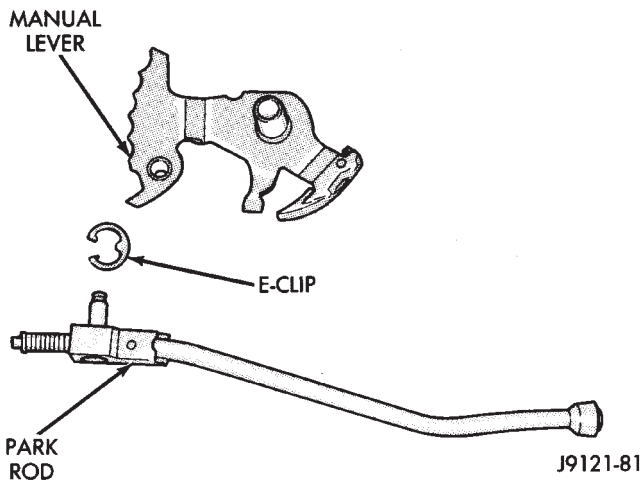

Fig. 55 Park Rod
(15) Remove park rod E-clip and separate rod from manual lever (Fig. 55).